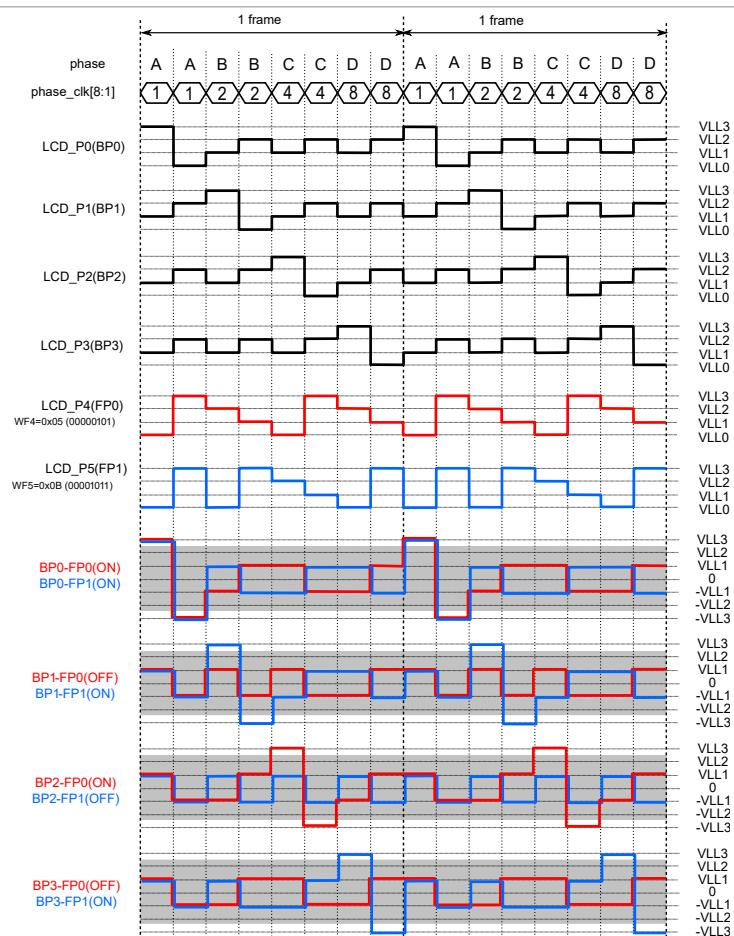

Figure 6. SLCD waveform example
Figure 6 shows the waveform for this example.
- Standard waveforms when [LCDLP] = 0, frame structure: “A-A-B-B-C-C-D-D”, as shown in Figure 6.